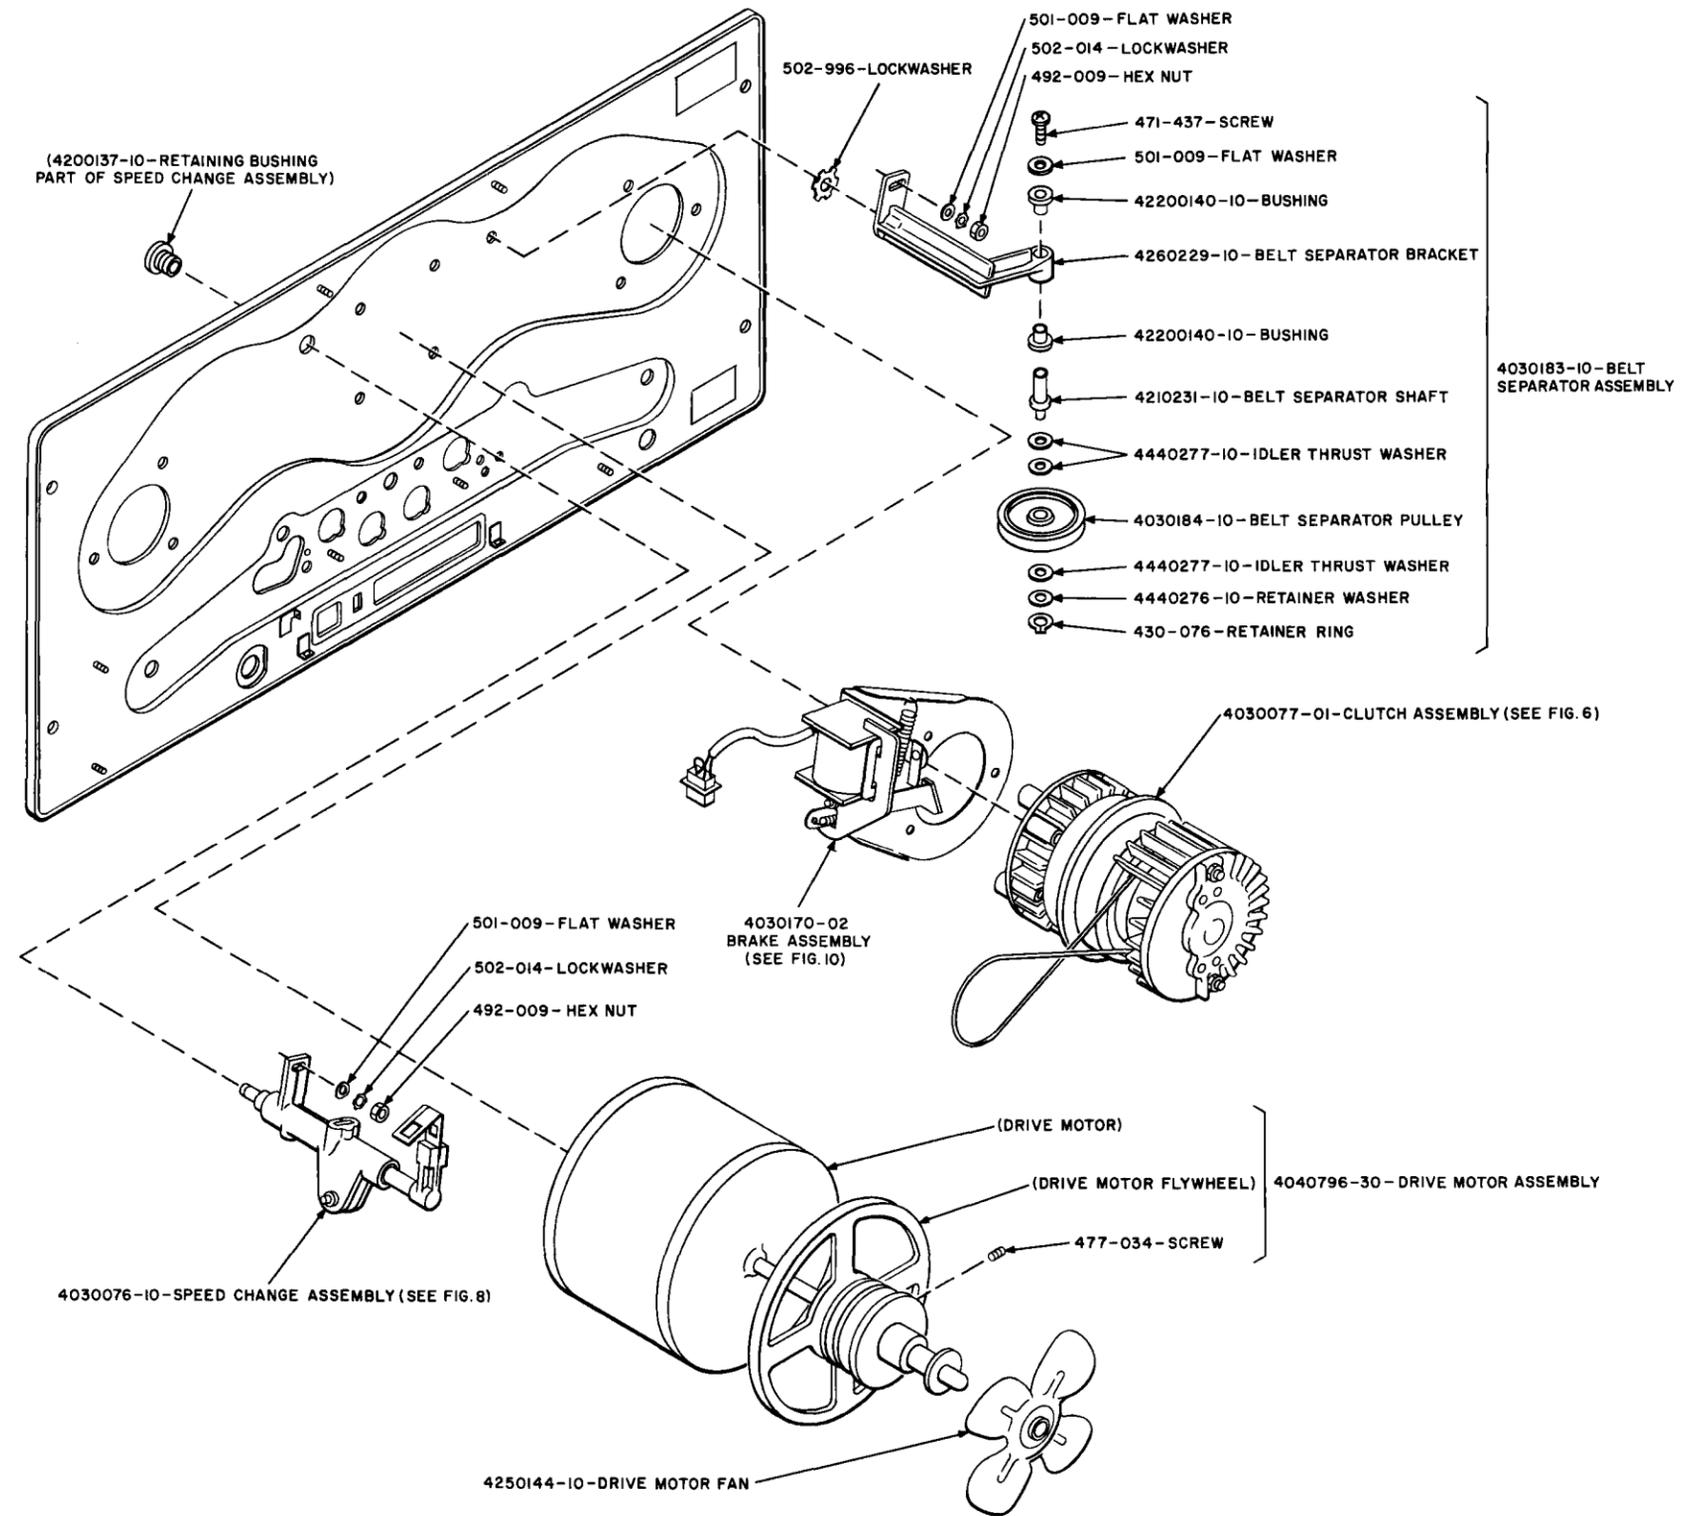

Fig. 4 — Record-Reproduce Mechanism—Removal of Drive Motor, Clutch, Brake, and Speed Change Assembly
3.09 Clutch Assembly: To replace the supply or take-up clutch assembly (Fig. 4 or 5), proceed as follows.
3.12 Clutch Belt Separator Assembly: To replace clutch belt separator assembly (Fig. 4), proceed as follows.
- (1) Use the 5/16-inch open double-end wrench to remove hex nut, flat washer, and lockwasher which hold separator assembly in place.
- (2) Carefully holding separator assembly, use the B screwdriver to remove screw, finishing washer (Fig. 9), external tooth lockwasher (Fig. 4), and separator assembly from tape transport.
- (3) Use the snap-ring pliers to remove retainer ring from the end of belt separator shaft.
- (4) Remove one retaining washer, three idler thrust washers, and the belt separator pulley.
- (5) Use the B screwdriver to remove screw, flat washer, two bushings and belt separator shaft from belt separator bracket.
(6) Refer to Fig. 4 to ascertain correct placement of each component part. Reassemble and install belt separator assembly in reverse order of removal.
3.13 Lubrication of Clutch Belt Separator Assembly: To lubricate clutch belt separator assembly (Fig. 4), proceed as follows.
3.14 Brake Assembly: To replace supply or take-up brake assembly (Fig. 4 or 5), proceed as follows.